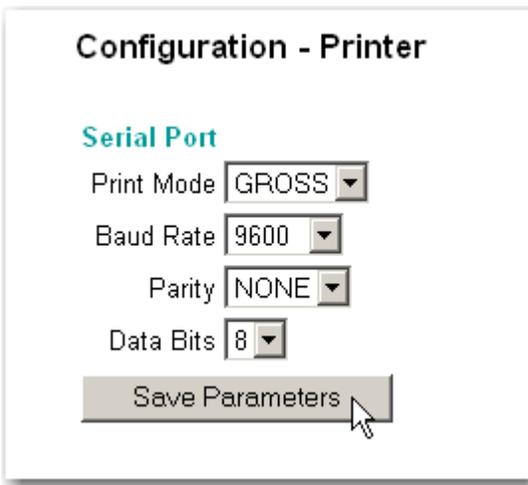

FIG. 207 PRINTER SETUP SAVING PARAMETERS
Step 9. Click on the Save Parameters button to save the parameters. (See Fig. 207)